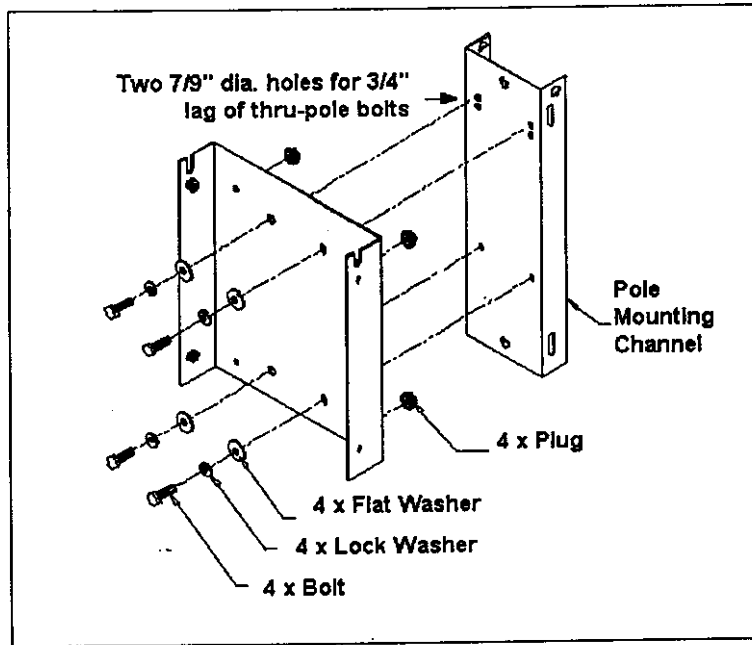

Figure 12. Pole Mounting Hardware
2. Using the hardware provided with the accessory kit, secure the rear mounting bracket to the two (2) pole brackets—see Figure 12 on page 25.